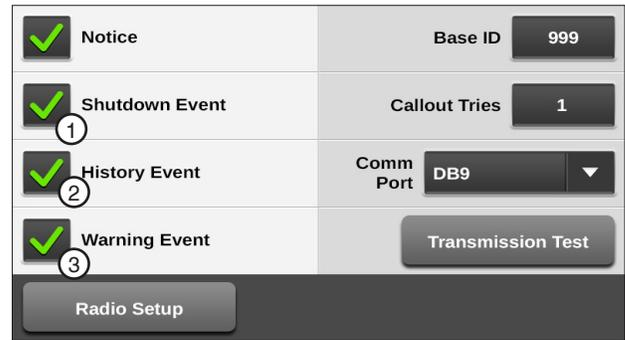

Figure 79-1 1. Shutdown Event 3. Warning Event
1. Push **Menu**, **Utilities** and **Notice** to display the Notice screen. Refer to Figure 79-1.